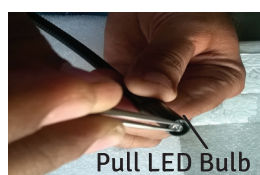

Figure CM-08a Changing Target Light LED
2. Pull out the defective LED and replace with new LED. refer fig. CM-08a. Thread in the LED cap back.